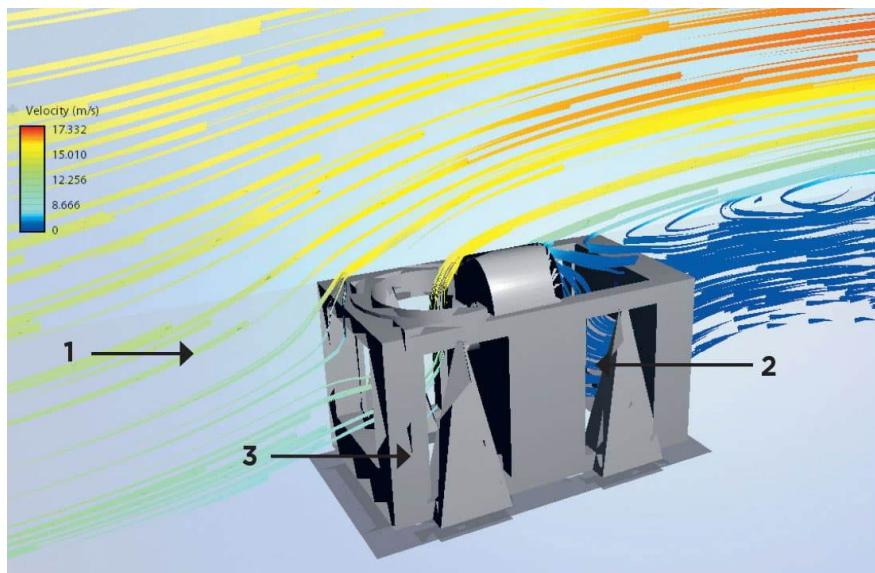

FIG. 5: Autodesk Flow Design software simulates the flow of liquid through the coral reef. Dark blue indicates the flow that has slowed down the most.
4. Optional: Download a copy of the .STL file from Tinkercad and load it into the Autodesk Flow Design software, which simulates liquid flowing through the design. Adjust the source of the flow to line up (Fig. 5, arrow 1) with the reef model (Fig. 5, arrow 2). Start the flow and observe how it changes due to the design of the reef. Observe whether there are any blue streaks (Fig. 5, arrow 3). This indicates that the water particles have been slowed down significantly. See fig. 5 for a view of a simulation.